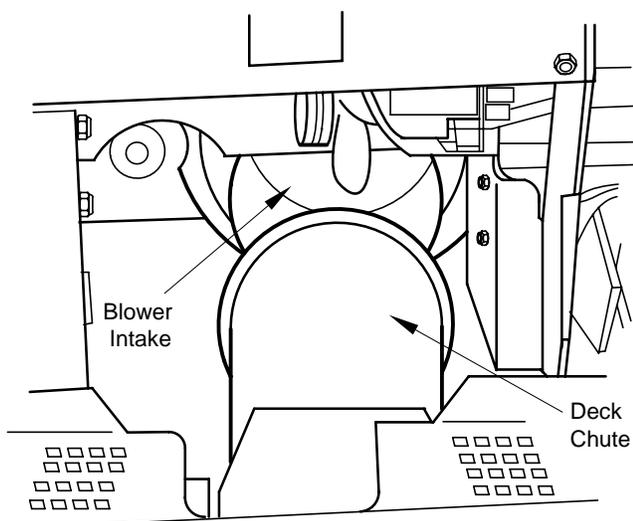

Figure 4-19 Aligning Deck Chute With Blower Intake
2. Install the cutter deck onto the push arm shafts just far enough to hold the deck in place. Align the cutter deck discharge chute with the blower intake chute (Figure 4-19) and push the cutter deck all the way onto the push arm shafts, inserting the discharge chute into the blower intake chute. Install a hairpin through each push arm shaft to retain the cutter deck.